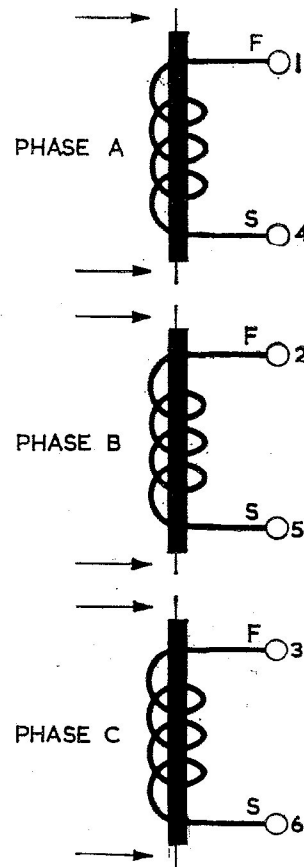

Fig. 2. Diagram of internal connections
4. For installation purposes the moulded base is provided with four 0.218 in. dia. fixing holes spaced 1.625 in. and 4.750 in. between centres. The electrical connections (fig. 2) to A, B and C are via 0.250 UNF terminal screws and studs, and to connections 1, 2, 3, 4, 5 and 6, via six 4 B.A. terminal screws.